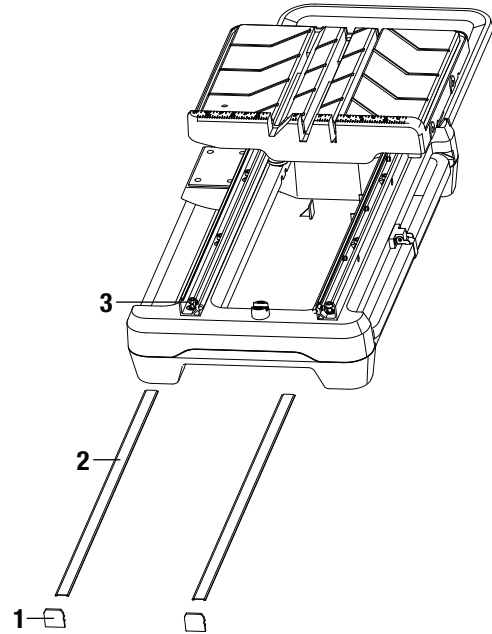
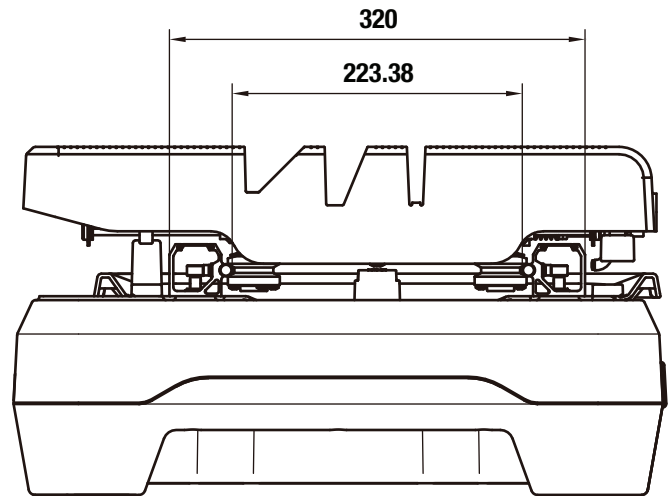

Fig. 39
Fig. 40
1. Turn off the saw. Remove the two end covers (1) at the ends of the rails from the end of the rails. Remove the two top covers (2) of the rails by sliding them out from the top of the rails (Fig. 39).
2. Loosen the four screws (3) inside each rail so that the rails may be adjusted.
3. Use a slide caliper or straight ruler to measure the distance between the two rails at one end of the rails. Make sure that the distance is 320mm, and then slightly tighten the screw at that end of each rail. Follow the same procedure at the other ends of the rails to adjust the distance between the rails to 320mm, and slightly tighten the screw at that end of each rail (Fig. 40).